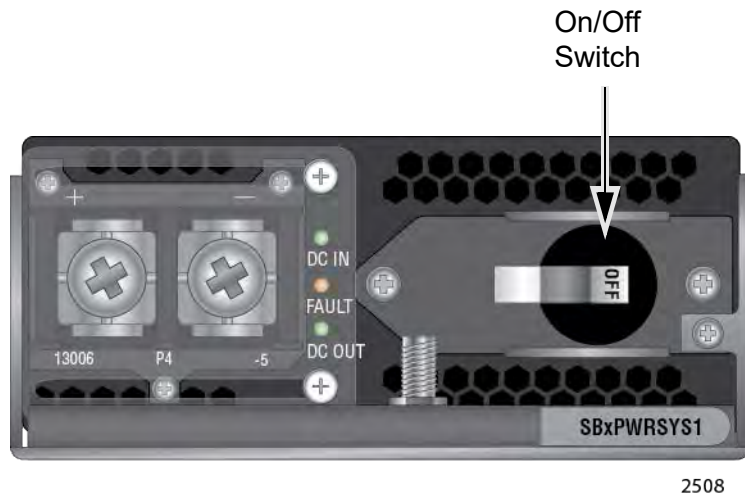

Figure 67. On/Off Switch on the AT-SBxPWRSYS1 DC Power Supply
4. Verify that the On/Off switch on the power supply is in the Off position. Refer to Figure 67 on page 141.